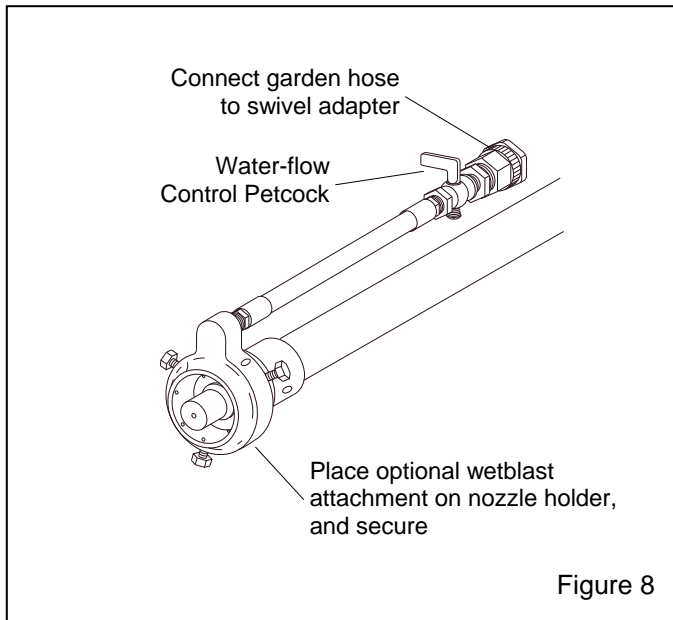

Figure 8
2.2.1 Loosen the three holding screws and slide the collar onto the nozzle holder as shown in Figure 8. Tighten the screws to secure.